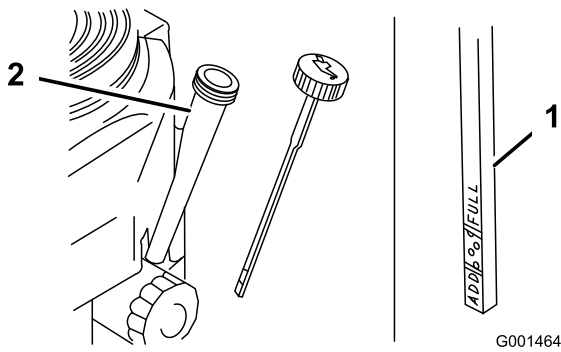

Figure 30
- Clean around the oil dipstick (Figure 30) so that dirt cannot fall into the filler hole and damage the engine.
5. Unscrew the oil dipstick and wipe the end clean (Figure 30).
6. Slide the oil dipstick fully into the filler tube, but do not thread onto tube (Figure 30).
9. Slowly pour approximately 80% of the specified oil into the filler tube (Figure 30).